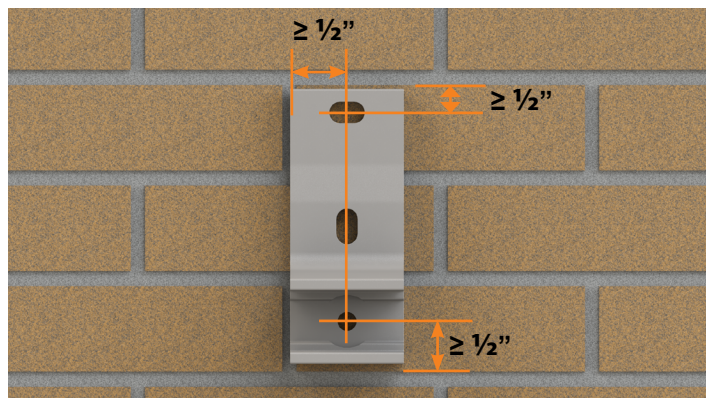

Fig.30
4. For proper support, the masonry fasteners supplied with this awning must be installed in the main body of the bricks not within 1/2" of the outer edge of any brick (Fig.30). Dry fit a "F" bracket at the mark previously made, and examine the locations of the mounting holes. If any holes correspond to joints in the brick or fall within 1/2" of a brick, reposition the mounting line, left-right position of the awning, and/or bracket locations respectively as needed.